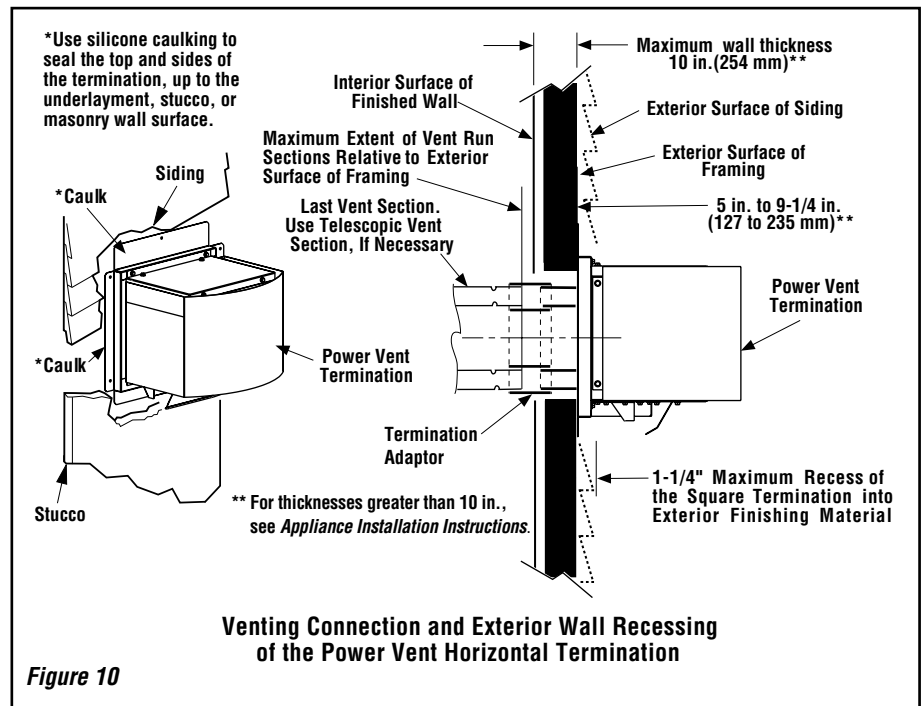

Figure 10
- If not previously measured, locate the center of the vent at the exterior wall, and prepare an opening as described in **Figures 10 and 11**.
- Assemble the vent system to the point where the end of the last section is within 8 inches of the outside wall surface where the **power vent termination** [#1] is to be mounted (**Figure 10**).
NOTE: For wall thicknesses greater than shown in **Figure 10**, refer to **Page 18** for other venting components that may be required.
NOTE: Do not recess the termination into the exterior wall or siding by more than 1-1/4" (32 mm), as shown in **Figure 10**.